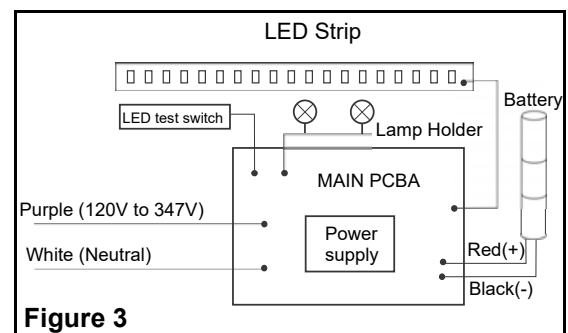

Figure 3
5. Make the proper wire connections: (Fig. 3)
8. Make the proper wire connections: (Fig. 3)